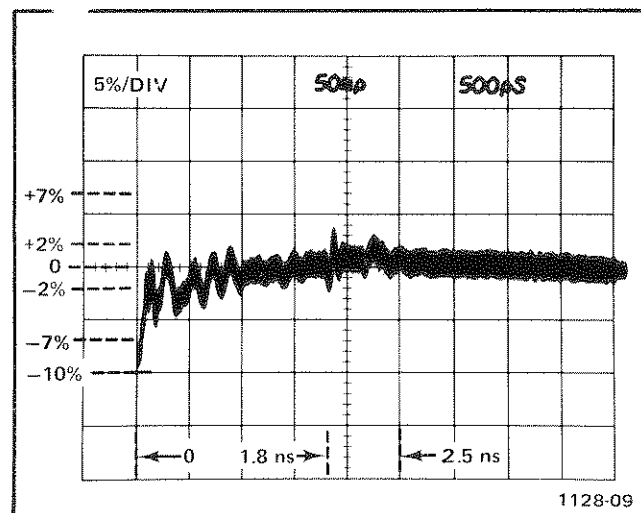

Fig. 4-2. Pulse aberrations of the S-6, S-52 and 7S12 system.
d. Set the m $\rho$ /Div switch at 50 and place the pulse step edge near the left edge of the graticule. Adjust the DC offset control to set the top of the pulse (at the 1.8 ns point from the pulse leading edge) on the graticule centerline. See Fig. 4-2.
i. Check that the aberrations are within +2%, -2%, total of 4% after 2.5 ns of the pulse edge. See Fig. 4-2.